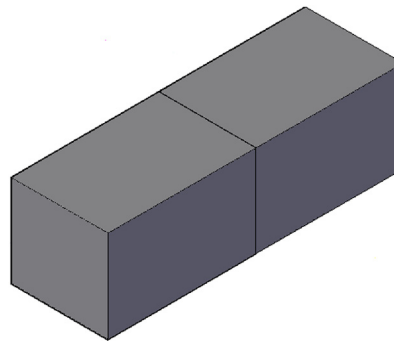

FIGURE 25.13
Step 5. Select the points carefully; Block 2 may be in the way, so you need to trust your OSNAPs (or just stay in wireframe mode to see the points). The final result is shown in Figure 25.13.